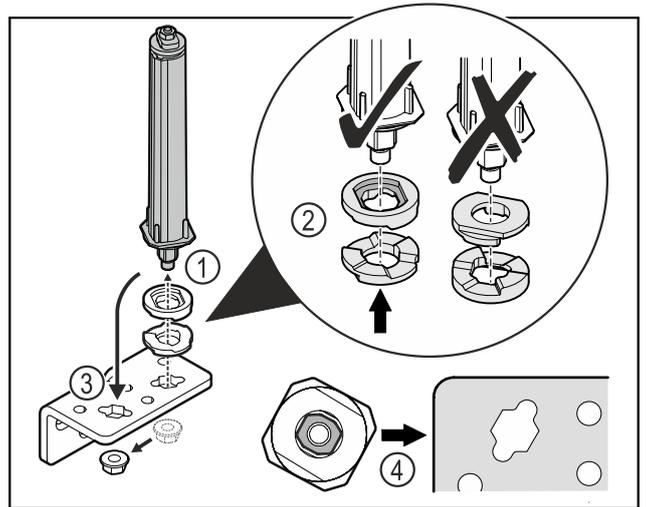

Fig. 30
- ▶ Loosen the nut and remove the door closing system Fig. 30 (1).
- ▶ Observe the correct alignment of the height adjustment washers Fig. 30 (2).
- ▶ Put the door closing system in the hinge and fix in place with the nut Fig. 30 (3).
- ▶ Observe the correct alignment of the door closing system when doing so Fig. 30 (4).